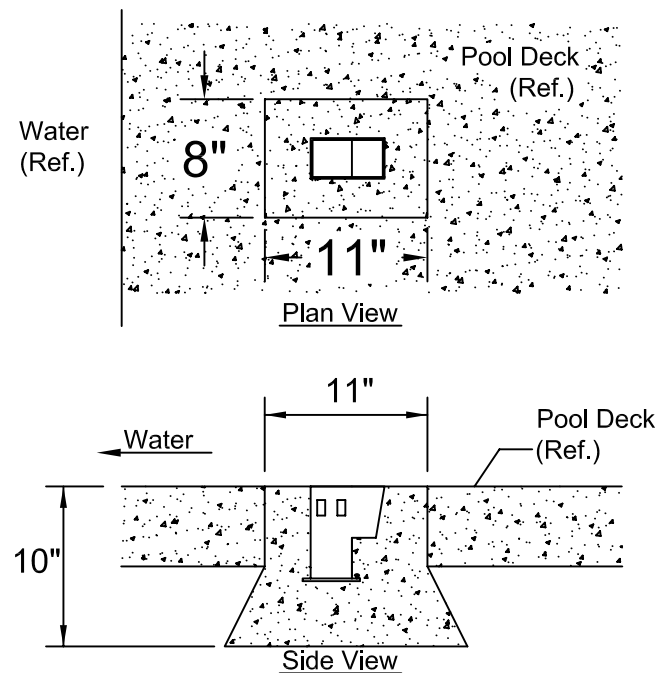

Figure 2: Anchor setting diagram for existing deck.
- ② Cut a hole in the deck (at the 'B' dimension) measuring approximately 8" x 11" x 10" deep. Undercut the sides of the lower half of the hole slightly (see Figure 2).